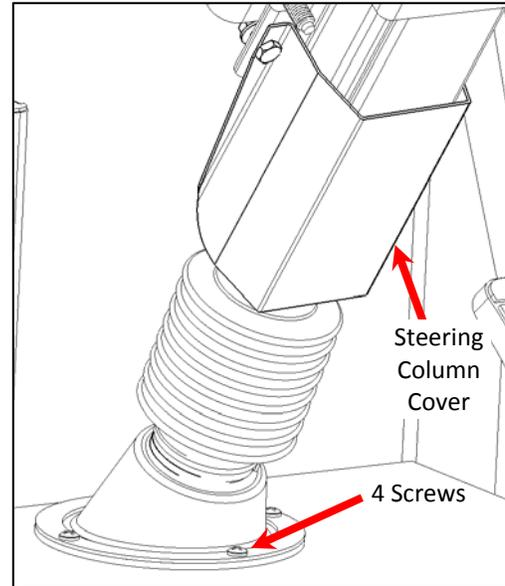

Fig. 2
1. Remove lower steering column cover and discard fasteners. (Fig. 2)
2. Remove four screws from steering shaft floor boot seal retaining ring. Boot seal and retaining ring should be loose from floor. Keep screws for re-use. (Fig. 2)